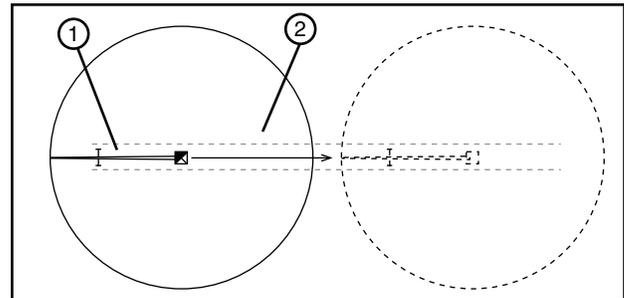

Figure 27-1 1. Machine
1. Position the machine in the tow lane. See figure 27-1.